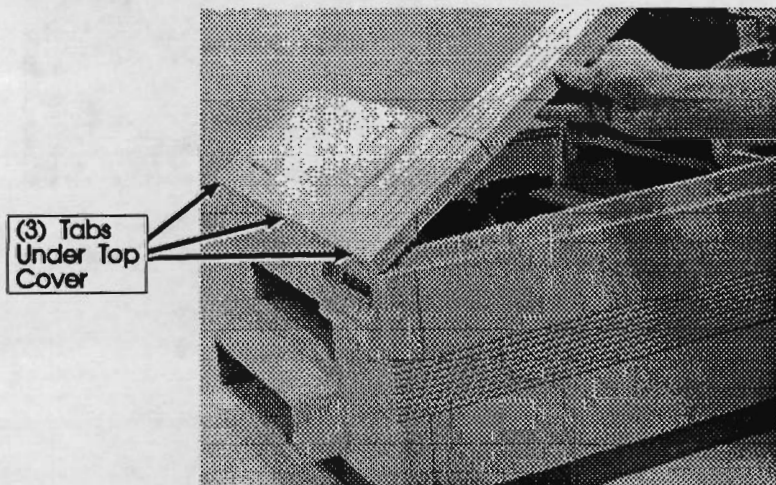

Figure 6-5. HP 33459 Top Cover Removal
The HP 33459 main body covers interlock tightly. *The four covers that form the HP 33459 Main Body Covers may be damaged if not removed as described below (see Figure 6-5).*
2. The three tabs on the front edge of the top cover must fit into the slots on the front cover before rotating the top cover into place (see Figure 6-5).
3. The three tabs on the front edge of the top cover must fit into the slots on the front cover before rotating the top cover into place (see Figure 6-5).